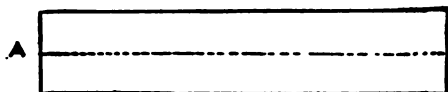

Fig. 3
If the fork is fastened horizontally and a guide placed below it, as shown in Fig. 2, a piece of smoked glass may be drawn evenly along beneath the fork, and the fine wire (A) will leave a smooth, clear scratch upon the smoked surface (Fig. 3).